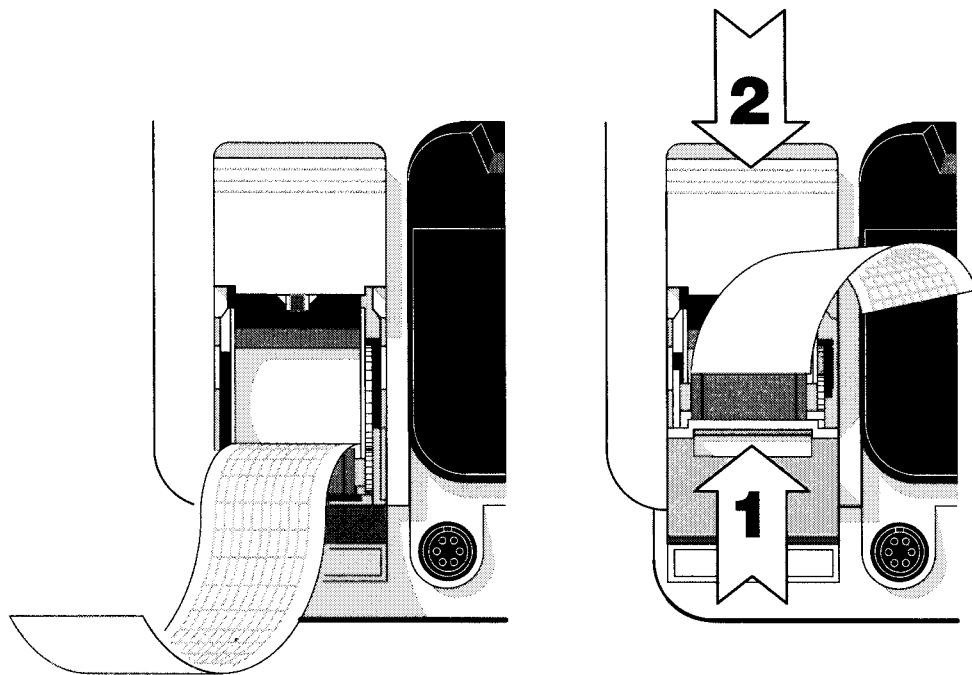

Figure 4-1 Loading paper into the recorder
To load paper into the recorder (see Figure 4-1):
- 5 Close recorder case. Press bottom recorder door up (see 1, Figure 4-1) and in and press top recorder door down (see 2, Figure 4-1).